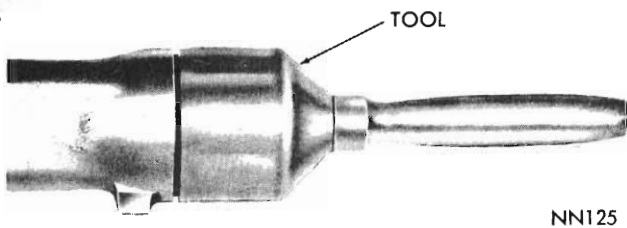
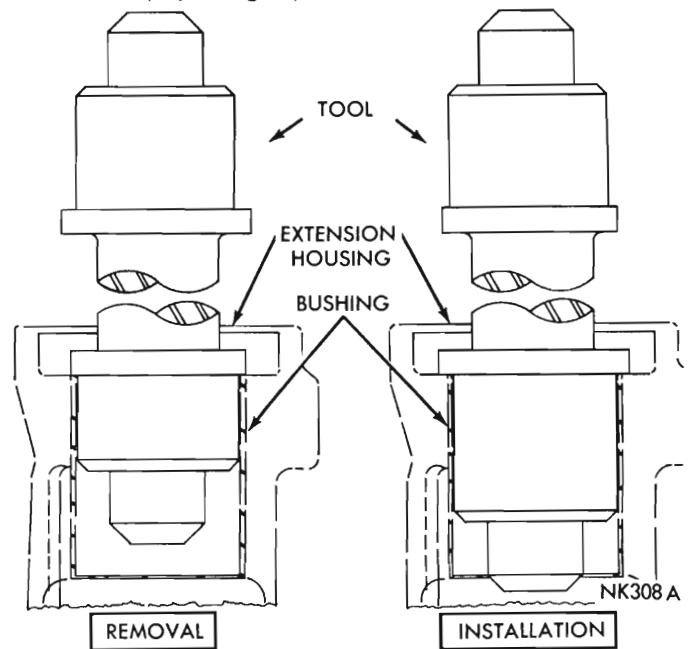

Fig. 3 - Installing Extension Housing Yoke Seal
Fig. 4 - Replacing Extension Housing Bushing.
(3) To install a new seal, position seal in opening of extension housing and drive it into the housing with Tool E21C50C (Fig. 3).
(4) Carefully guide front universal joint yoke into extension housing and on the mainshaft spline. Connect propeller shaft to rear axle pinion shaft yoke.
(1) Disconnect propeller shaft at rear universal joint. Carefully pull shaft assembly out of the extension assembly.
(2) Remove speedometer pinion assembly. Drain approximately one pint of lubricant from the transmission.
(3) Remove bolts securing extension housing to the crossmember. Raise transmission slightly with service jack and a piece of flat wood, then remove centre crossmember and support assembly.
(4) Remove the spring pin connecting the cranked gearshift connecting rod and gearshift rail.
(5) Remove extension housing to transmission bolts and carefully remove the extension housing.
(6) Drive oil seal out of extension housing with tool. Be sure not to mark oil seal surface in the housing.
(7) Press or drive out bushing with Tool E21C50E (Fig. 4).
(8) Slide a new bushing on installing end of Tool E21C50E. Align oil hole in bushing with oil slot in the housing, then press or drive bushing into place.
(9) Install a new oil seal into housing with Tool E21C50C (refer Fig. 3).